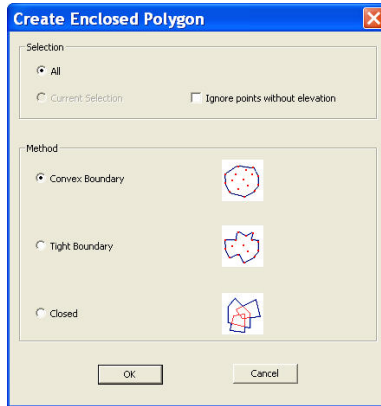

Figure 14-88. Create an Enclosed Polygon
1. Click **Surface** ► **Create Enclosing Boundary**. The *Create Enclosed Polygon* dialog box appears (Figure 14-88 on page 14-70).